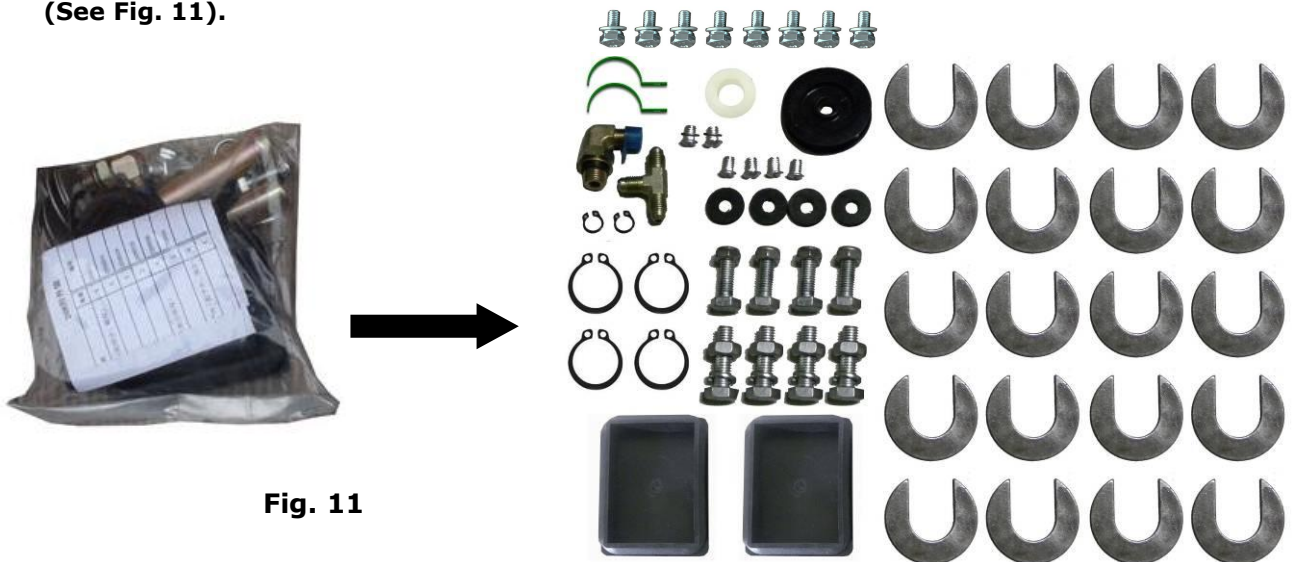

Fig. 11
- Open the carton of parts and check the parts according to parts box list (See **Fig. 11**).